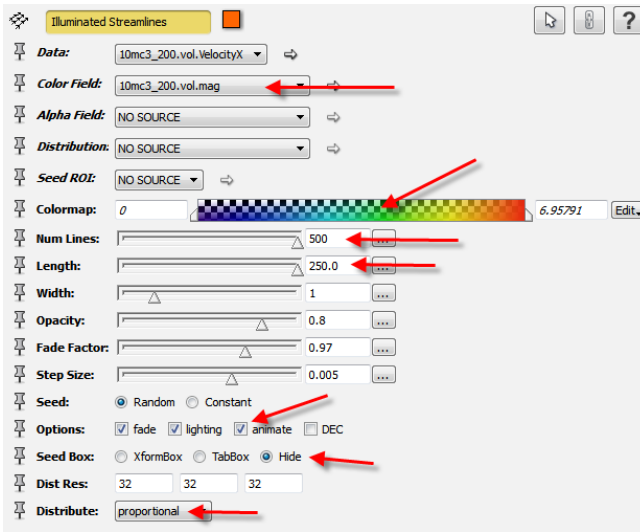

Figure 12.26: Modified parameters for *DisplayISL* module for velocity field result of absolute permeability tensor calculation.
- Right-click on 10mc3_200.vol.VelocityX and select *Display > Illuminated Streamlines* and set its parameters as described in Figure 12.26.